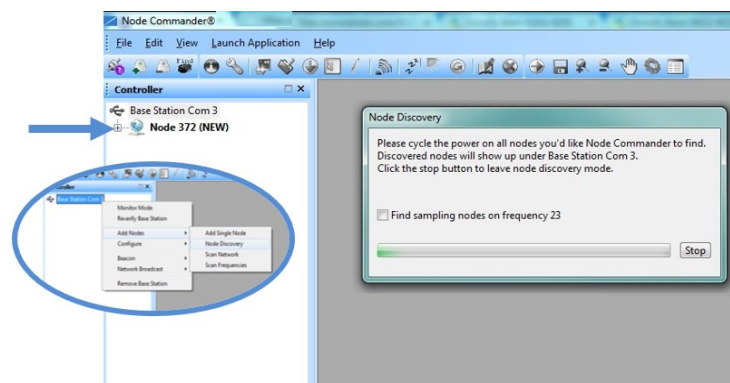

Figure 7 - Using Node Discovery
1. Right-click on the gateway name and select Add Node > Node Discovery (Figure 7 - Using Node Discovery).